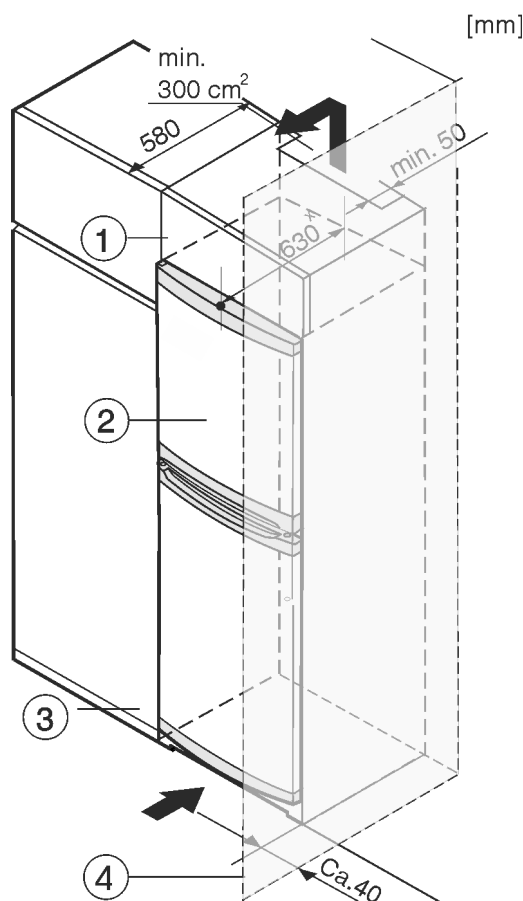

Fig. 8
- (1) Top cupboard
- (2) Appliance
- (3) Kitchen cabinet
- (4) Wall
The appliance can be built into kitchen units. A top cupboard Fig. 8 (2) can be added above the appliance in order to bring the height of the fitted kitchen units.
When fitting kitchen cupboards around the appliance (max. depth 580 mm), you can install the appliance directly next to the kitchen cupboard Fig. 8 (3). The appliance protrudes 34 mm * to the side and 50 mm * in the centre of the appliance in relation to the kitchen cupboard front.
If the appliance is set up with the hinges next to a wall Fig. 8 (4), the distance between the appliance and the wall must be at least 40 mm. This is how far the handle protrudes when the door is open.